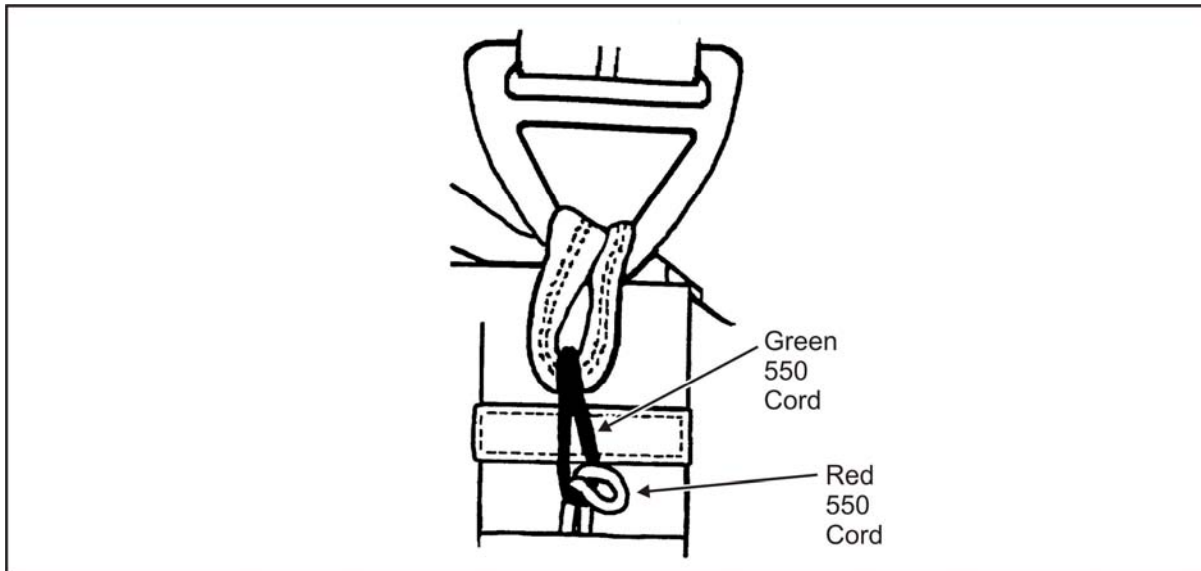

Figure 5-22. Inserting the Red 550 Cord Through the Green 550 Cord
- Pulls the red 550 cord through the green 550 cord (Figure 5-22, page 5-22).